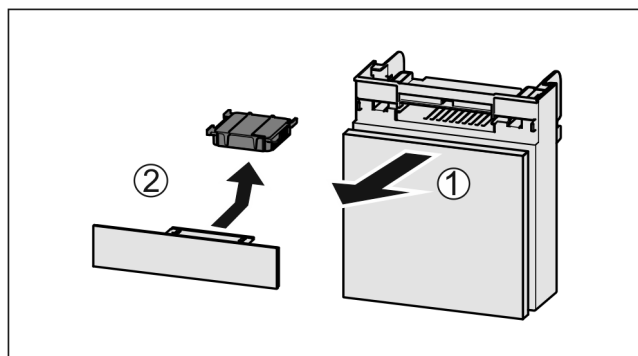

Fig. 57
- Pull out the compartment Fig. 57 (1).
- ▶ Remove the carbon filter *Fig. 57 (2)*.